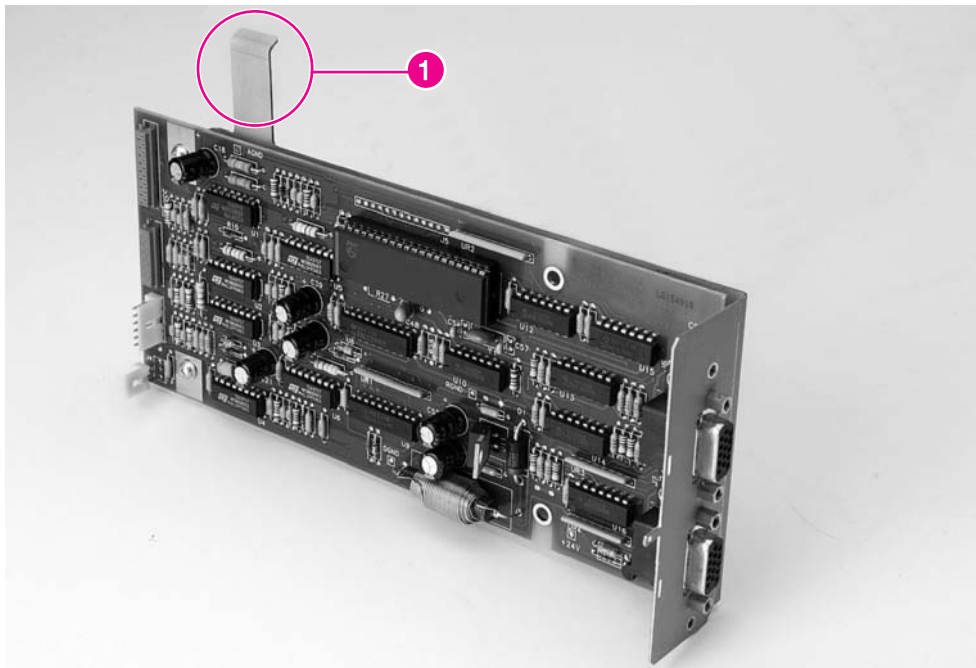

Figure 6-184 Stapler Controller PCA (3 of 3)
- 5 The board is supported by a hooked tab at the top of the card (see figure 6-184, callout 1). Slide the board to the left and then down.